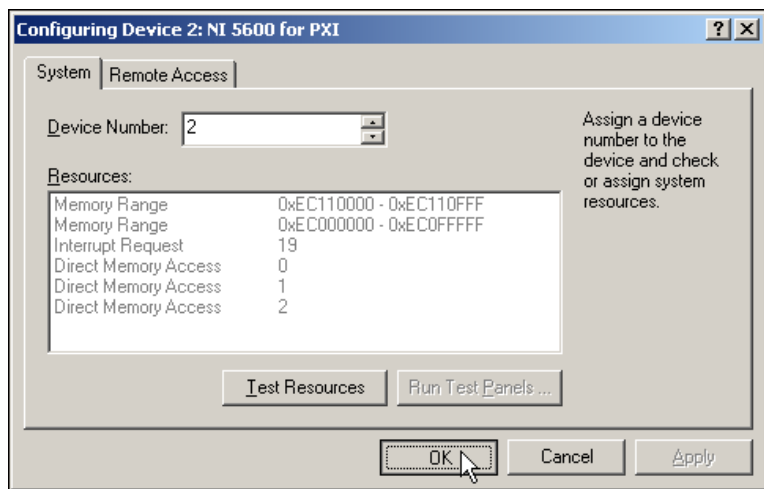

Figure 1-12. Click OK to Return to MAX
7. In the NI 5600 Configuring Devices window, shown in Figure 1-12, click **OK** to return to MAX.